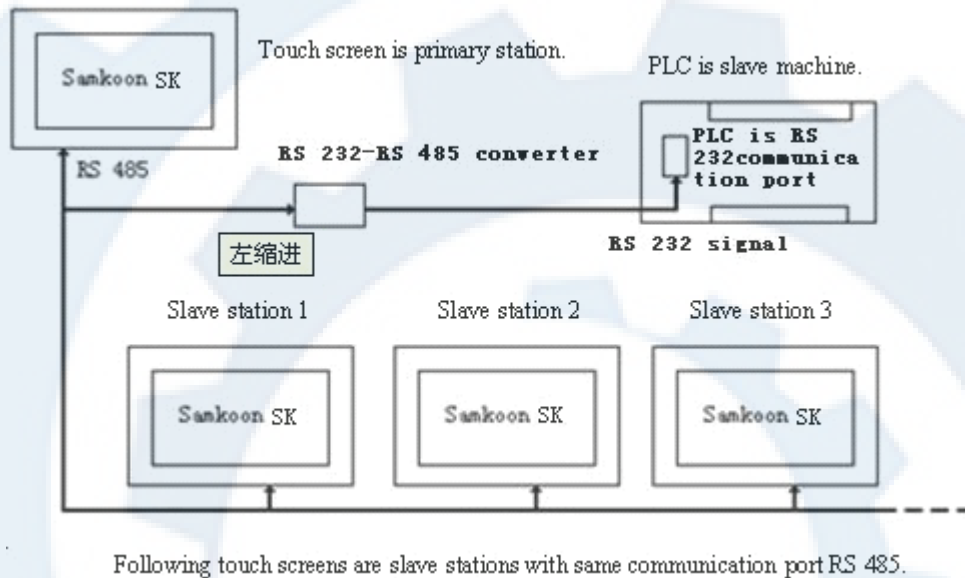

Figure 8-5 Schematic diagram of connection mode “One device with multiple screens” When PLC (RS232) is slave station
1. The communication port RS232 connected with PLC, connection method and system setting of host are as shown in figures 8-5, 8-6 and 8-7.